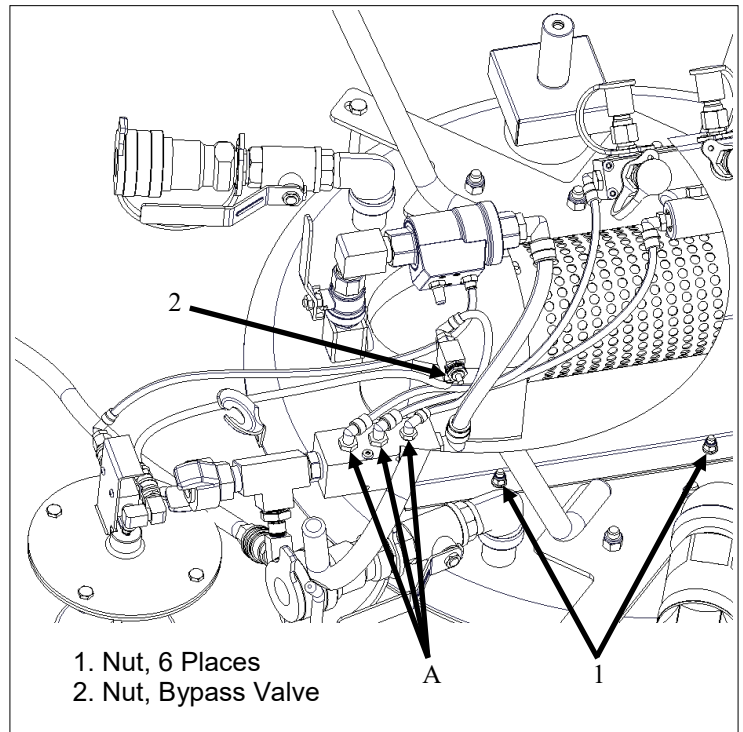

Figure 4-2 Vacuum System Assembly Cover Removal
- f. Detach pneumatic tube from Drain Tool Vacuum Group at connection points on manifold (See Figure 4-2, (A)).
- g. Remove nuts (1), six places; and bypass valve nut (2) remove cover and Drain Tool Vacuum Group. Make sure that the Auto Shut-off Bypass Valve is free from cover before removing. (See Figure 4-2).